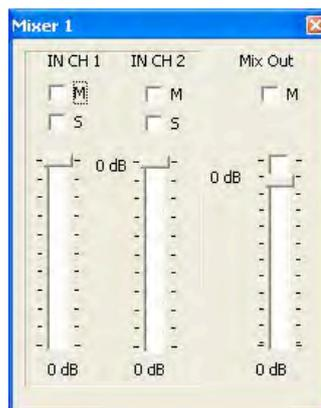

Figure 4-9: Mixer Controls
- Mixer: The Even channels (Paging signal) are routed to both the Ducker (side chain control) and to the Mixer. The mixer recombines the BGM and Paging signals and allows the user to set the relative balance between input 1 (BGM) and input 2 (Paging). The mixer is shown in Figure 4-9 below.